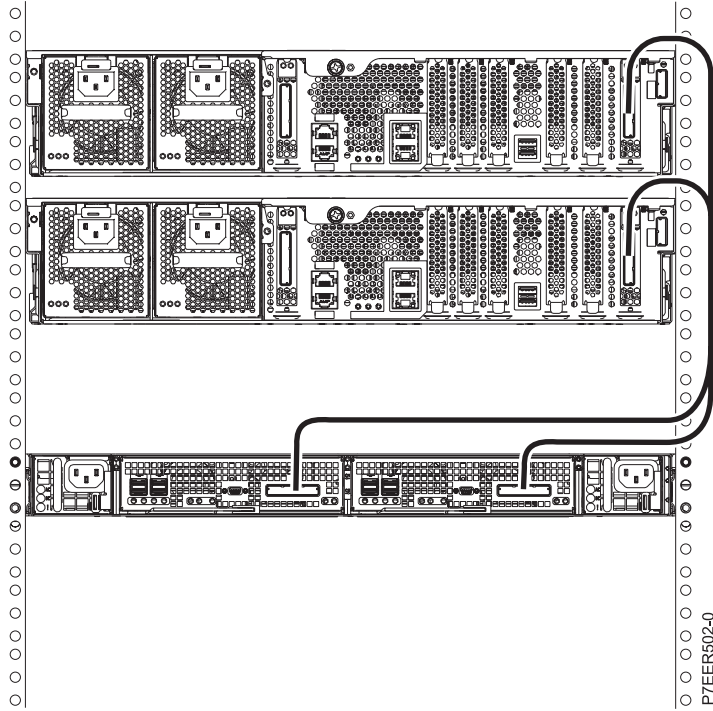

Figure 43. One EDR1 PCIe storage enclosure connected to two 8231-E1D, 8231-E2D, or 8268-E1D systems by using two FC E10H PCIe2 GX++ adapters and two PCIe cables
Figure 43 on page 33 shows one EDR1 PCIe storage enclosure connected to two 8231-E1D, 8231-E2D, or 8268-E1D systems by using two FC EJ0H PCIe2 GX++ adapters and two PCIe cables.
**Note:** The 8231-E1D and 8268-E1D must be one of two systems in a high-availability configuration in order to support a PCIe storage enclosure as is shown in Figure 43 on page 33.